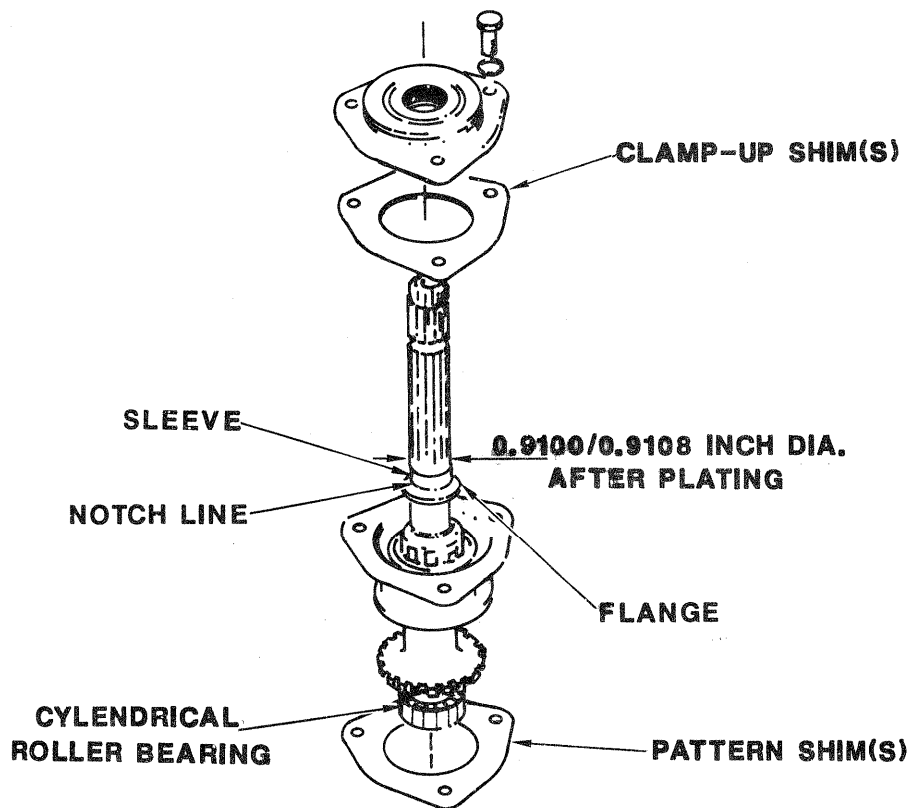

Figure 1. Speedi-Sleeve (PN 084956) Installation/Replacement
- e. Replace an installed sleeve, if damaged or grooved, as follows and as shown in Figure 1.
- (1) Use file or other suitable instrument to cut through edge of sleeve; carefully pry cut edge away from shaft.
- (2) Grasp raised edge with pliers and peel damaged sleeve off shaft.
- (3) Remove any Devcon residue from shaft using dry cleaning solvent (PD-680); dry shaft with clean, lint free cloth.
- f. Install Speedi-Sleeve as follows: (See Figure 1.)